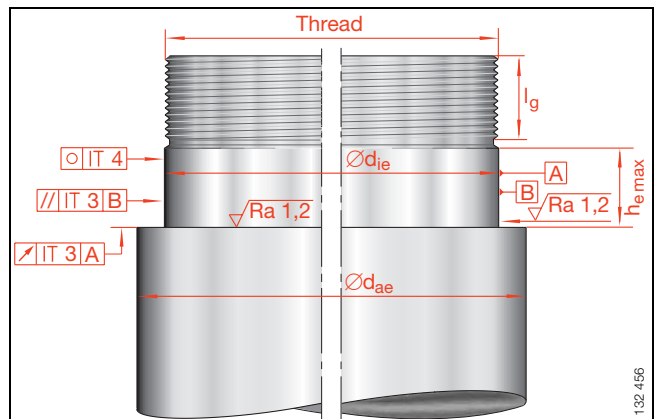

Figure 8 · Shaft design
- for the seating and support surfaces on the shaft, accuracy according to Figure 8 is required.